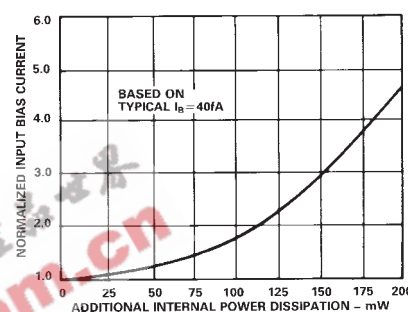

Figure 9. Input Bias Current vs. Additional Power Dissipation
3. Output loading effects, which are normally ignored, can cause a significant increase in chip temperature and therefore bias current. For example, a  $2\text{ k}\Omega$  load driven at 10 V at the output will cause at least an additional 25 mW dissipation in the output stage (and some in other stages) over the typical 24 mW, thereby at least doubling the effects of self-heating. The results of this form of additional power dissipation are demonstrated in Figure 9, which shows normalized input bias current versus additional power dissipated. Therefore, although many dc performance parameters are specified driving a  $2\text{ k}\Omega$  load, to reduce this additional dissipation, we recommend restricting the load resistance to be at least  $10\text{ k}\Omega$ .